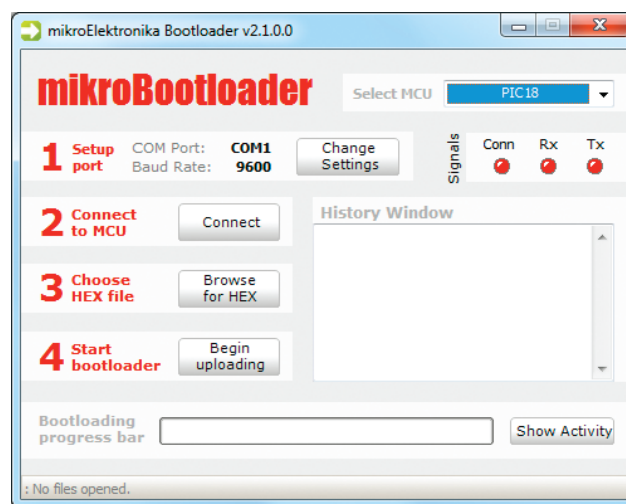

Figure 2-1: mikroBootloader window
**01** When you start mikroBootloader software, a window as shown in **Figure 2-1** should appear